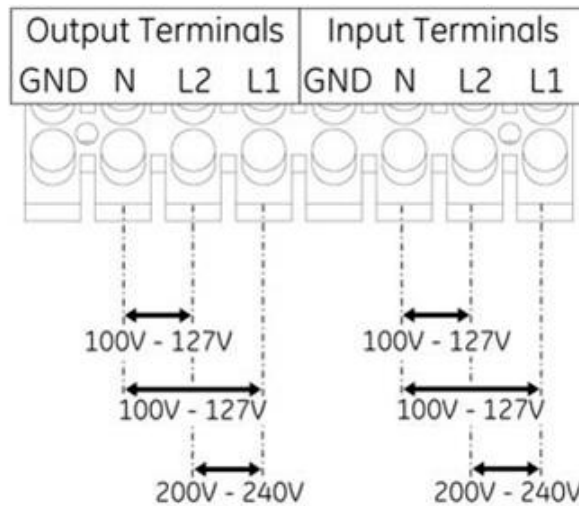
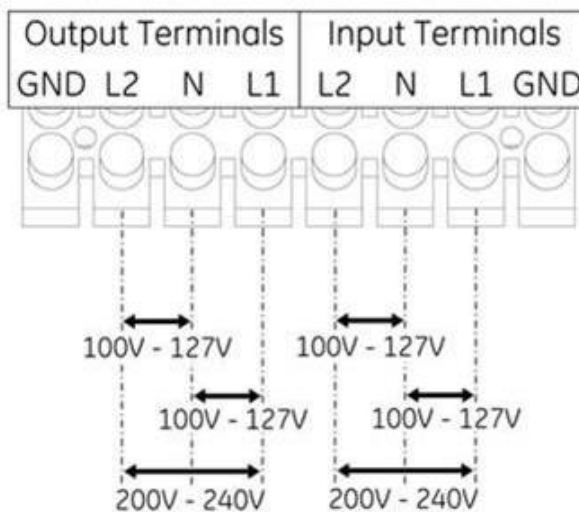

FIG 33 – HARDWIRE WIRE CONNECTIONS 6KVA UPS
FIG 34 – HARDWIRE WIRE CONNECTIONS 10KVA UPS
4. **Input:** connect the input utility wires to the terminals L1-L2 (Line) and N (Neutral) and the ground wire to GRD. **Ground connection is essential!** (see FIG 33 or FIG 34).
5. **Output:** connect the load wires to the terminals L1-L2 (Line) and N (Neutral) and the ground wire to GRD. **Ground connection is essential!** (see FIG 33 or FIG 34).